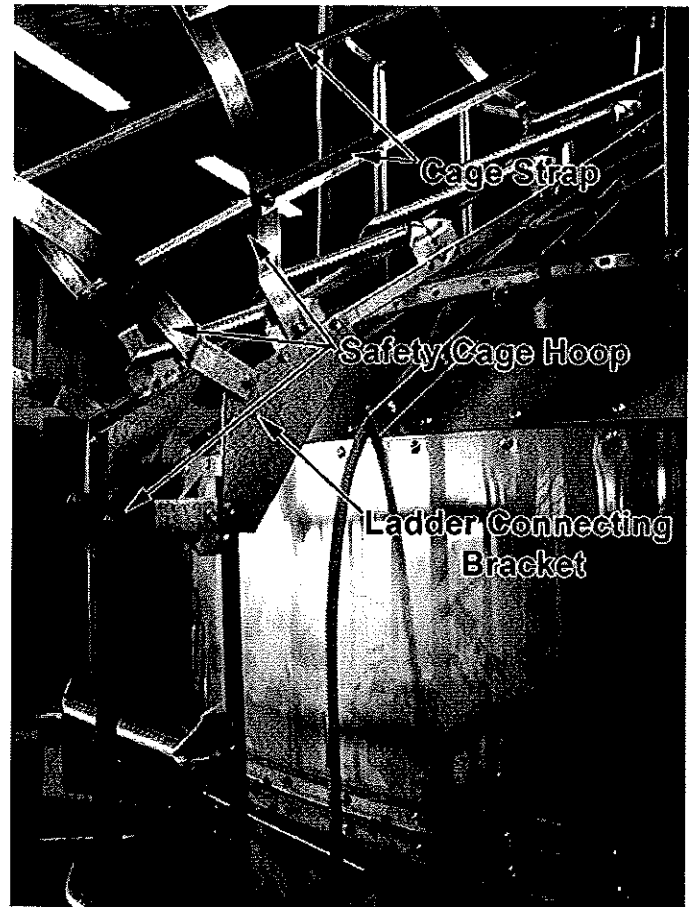

Figure 22
- The safety cage hoop at the bottom of the 5' ladder and the safety cage hoop at the top of the 6' ladder will bolt onto the ladder connection brackets. See Figure 22.